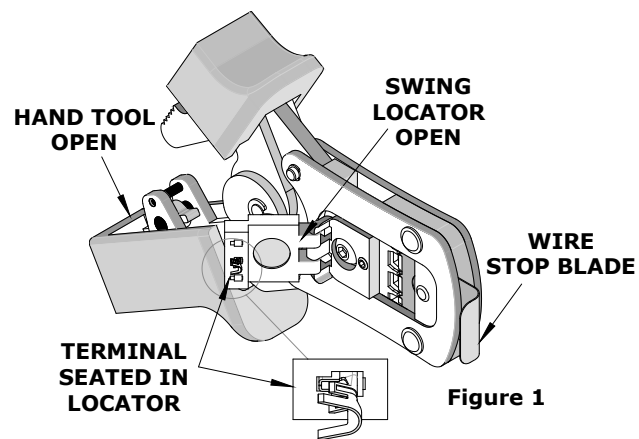

Figure 1
1. With the hand tool in the open position, pivot the terminal locator open by pulling on the locator knob, and lift the wire stop blade up. See Figure 1.